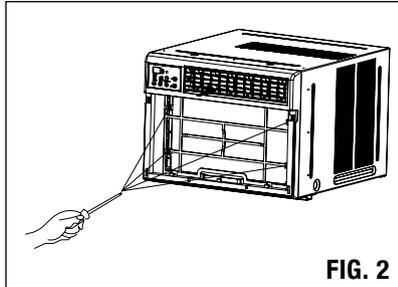

FIG. 2
- Locate the four front screws and remove. These screws will be needed to re-install the front later. (See FIG. 2.)